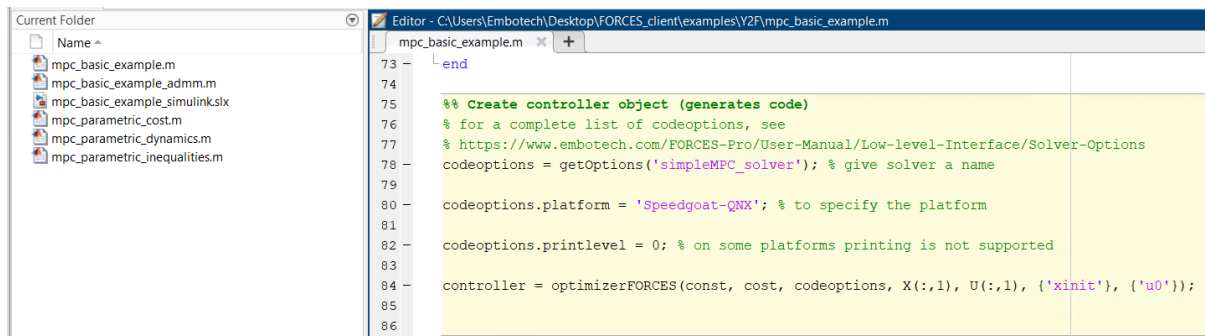

Figure 13.102: Set the appropriate code generation options.
1. (Figure 13.102) Set the code generation options: